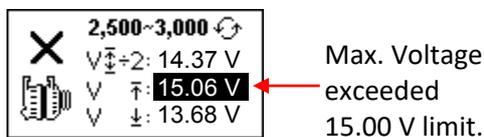

Fig.42
6. If either minimum or maximum charging volts are not within the voltage range limits then it will highlight the result as shown on the examples below displays (Figures 42 & 43) and it will prompt you to check the alternator system for the fault.